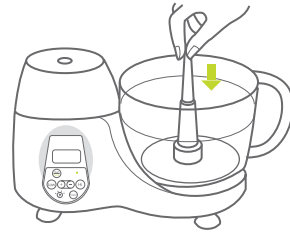

Fig. 25
1. with the empty processor bowl locked in place take out of the blade shaft (a) and insert the blade shaft (b) which is longer that a. (Fig. 25)